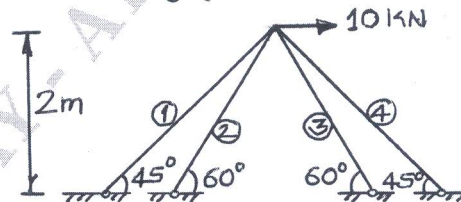

Fig.Q4
- 4 Analyze the pin jointed plane truss by flexibility matrix method using force transformation concept. Take the members 2 and 3 as redundants  $R_1$  and  $R_2$ . Cross sectional area and E are same for all members. Refer Fig.Q4.